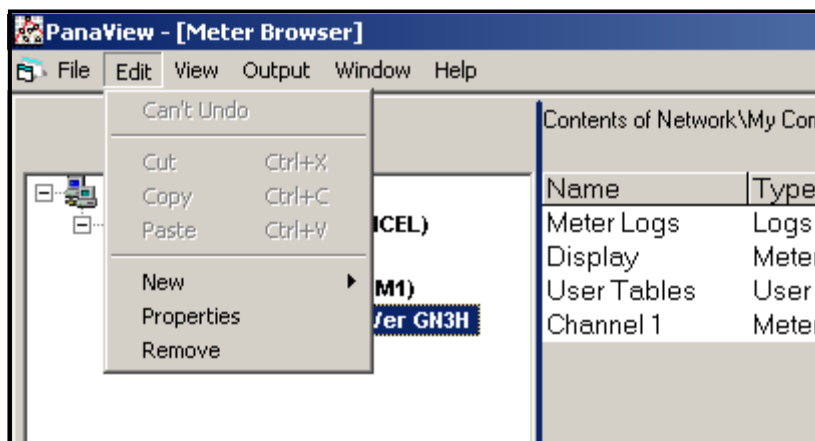

Figure 24: The *Properties* Option in the *Edit* Menu
2. Open the “Edit” menu and select the “Properties” option, as shown in Figure 24 below.